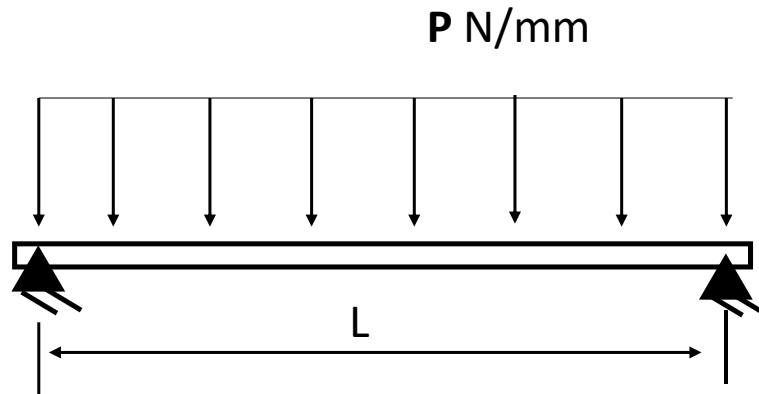

Fig. 2b
- b) For the beam shown in Fig. 2b obtain the maximum deflection using Rayleigh-Ritz method. 12